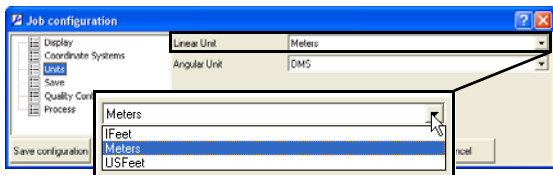

Figure 2-3. Select Linear Unit
- Click **Units** in the left panel and select the applicable *Linear Unit* (Figure 2-3).